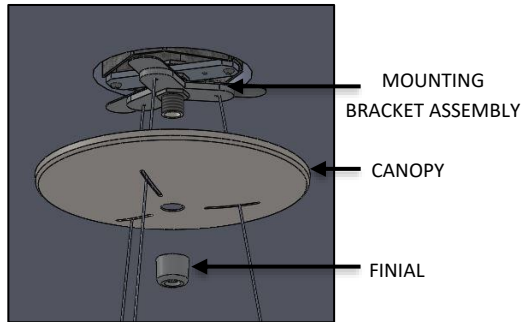

FIG. 20 – CANOPY DISASSEMBLY
7. Once the MOUNTING STRAP ASSEMBLY is secured to the AIRCRAFT CABLE (3) at the GRIPLOCK (3) Unthread the FINIAL from the MOUNTING BRACKET ASSEMBLY and lower the CANOPY as shown below in FIG. 20.